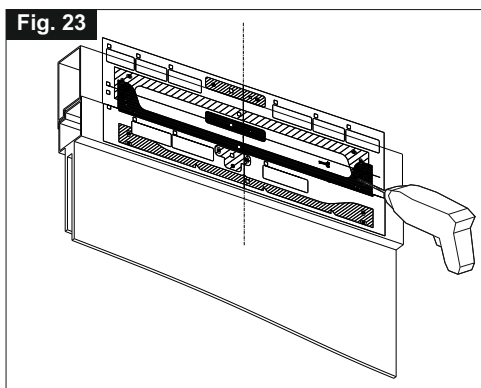

Fig. 24
- 5) Fig. 24/25- With the suitable screws tighten the bracket for window frame connection and the bottom hung opening bracket;